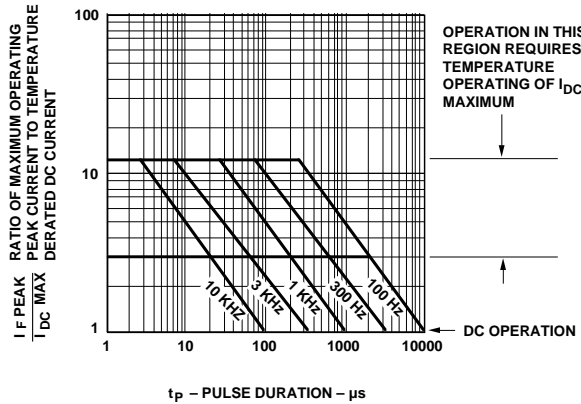

Figure 8. Allowable Peak Current vs. Pulse Duration – Green.
7. See Figure 8 to establish pulsed conditions.